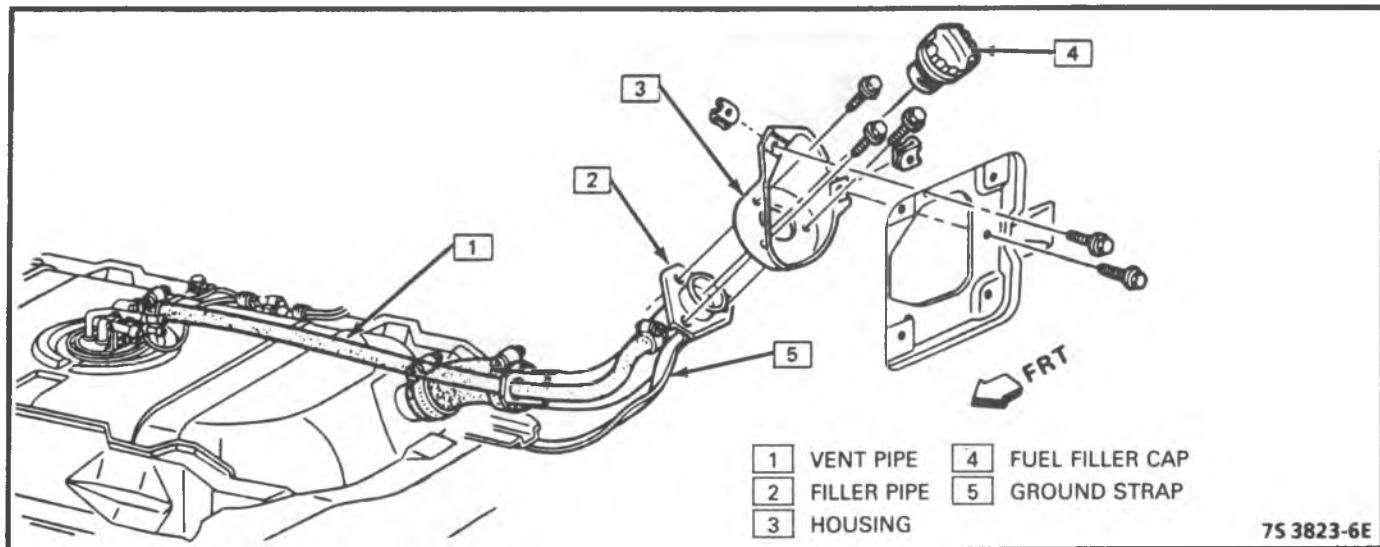

Figure 4-68 - Filler Neck - ST Utility
2. Clamps from filler neck hose and vent line. (Fig. 4-68 through 4-75).